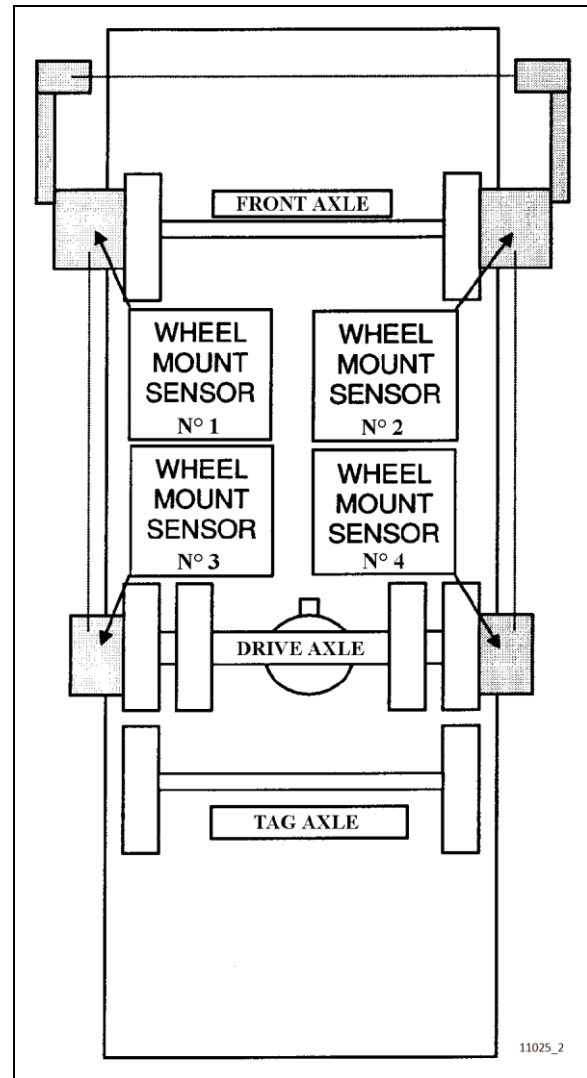

FIGURE 7: FRONT & DRIVE AXLE ALIGNMENT 11025
3. Install wheel mount sensors on front and drive axles (Figure 7).
See reference numbers on wheel mount sensors (Figure 7).
With the system installed as for front axle alignment (Figure 7), adjust drive axle according to specifications chart below. Use static wheel alignment systems which work with angle measurements only, such as Josam or Hunter systems. Static alignment specifications are listed in the following tables: